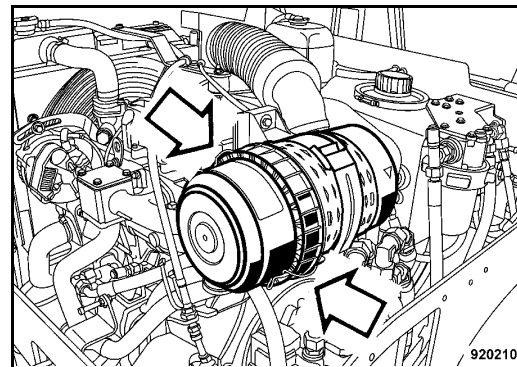

Fig. 140
- Release the locking hook (Fig. 140) and take the filter hood off.